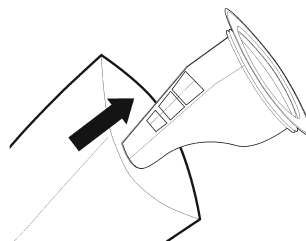

Fig. 10
4. Remove the dust filter (11) inside the dust container (10) and empty it (Fig. 10).
5. Clean the dust filter (11) and, if necessary, the inside of the container using a dry cloth.